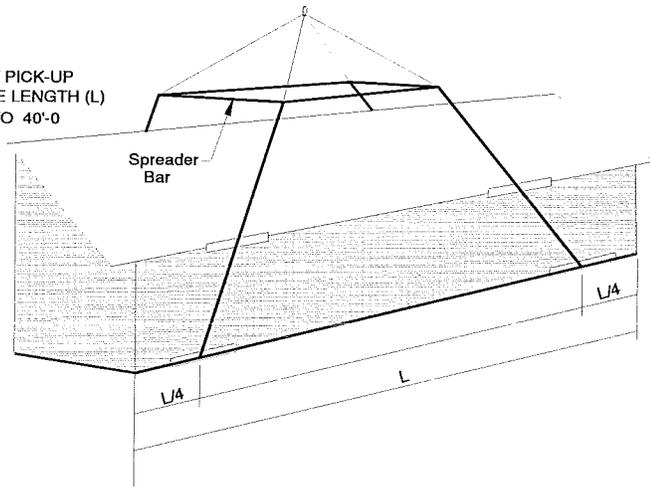

Figure 7 - 2 Point Pick-up
7. If home being set does not have crane-ready floor system, crane straps/cables should be positioned as shown in figures 7 & 8. Cable holes may be drilled in perimeter joists 2" minimum from bottom of joists (exterior side only). This will prevent lifting straps or cables from being trapped between sill plate and floor system. The rim joists are not to be notched or cut. Install temporary support directly above the drilled cable holes in perimeter joists. This should consist of a 24" 2x4 minimum studwall between ceiling beam and floor where the cable is located in mate line open spans.